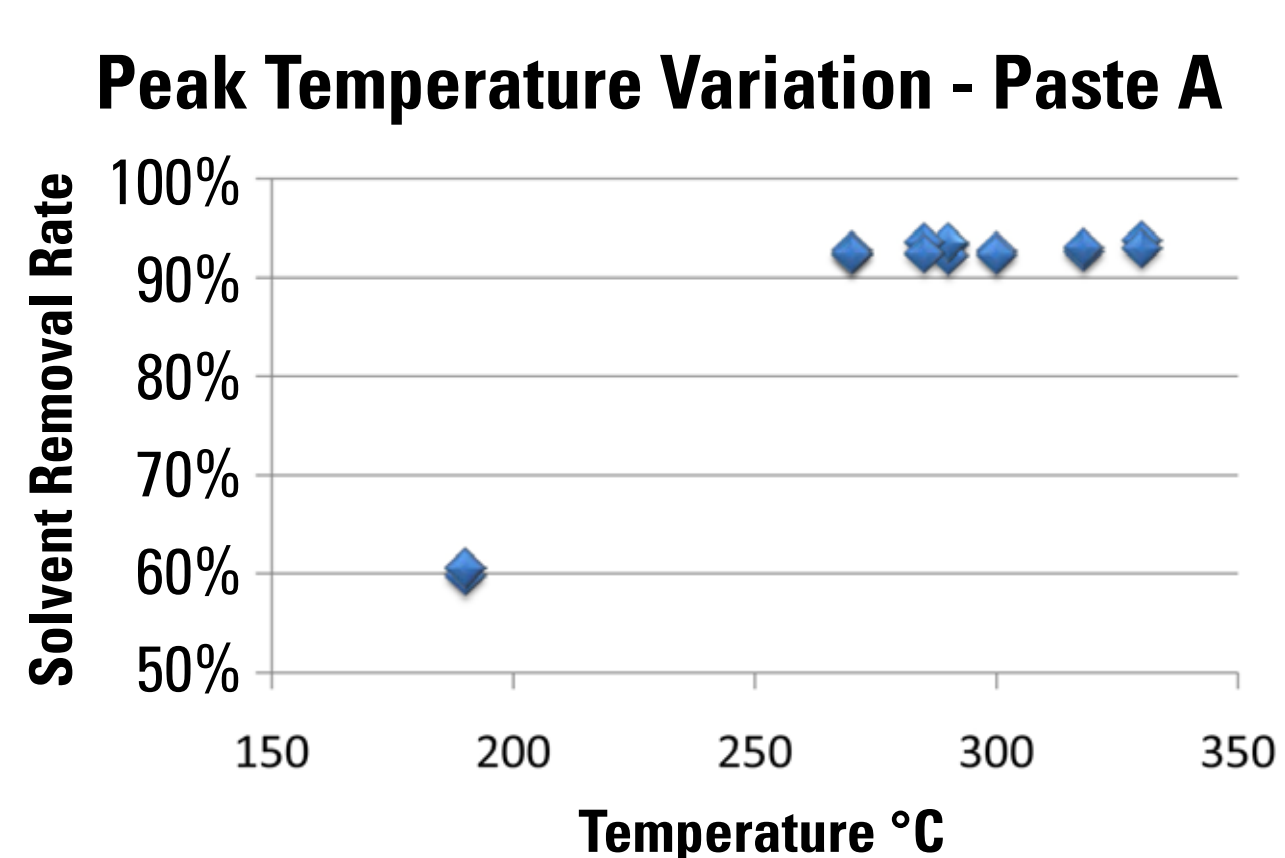

Figure 2: Impact of temperature on solvent removal rate of difficult to dry Paste A
- ◆ Paste A: minimum temperature of 270°C - difficult to dry (figure 2)